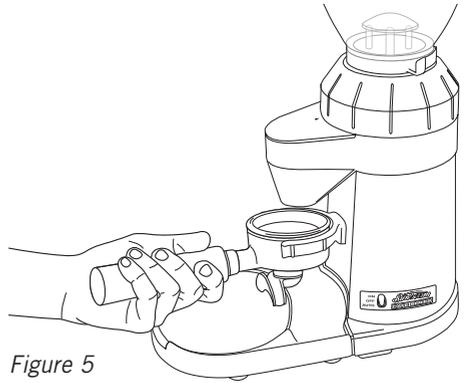

Figure 5
10. Position the group handle into the group handle locator, see figure 5.